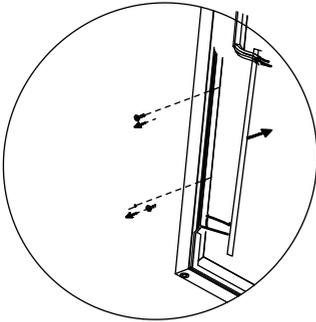

Fig4.2.1
A. As illustrated in Figure 4.2.1, extract the gasket from the handle installation area. The gasket can be easily removed manually without the need for tools.